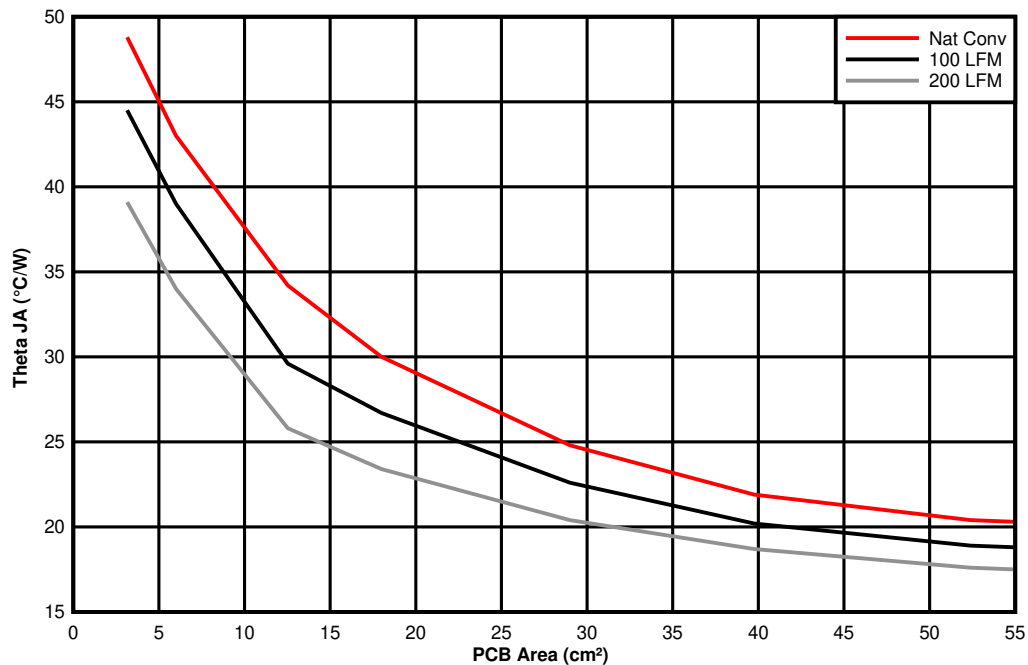

图 10-5. θ_{JA} vs PCB Area
The amount of PCB copper as well as airflow effects the thermal performance of the device. 图 10-5 shows the effects of copper area and airflow on the junction-to-ambient thermal resistance ($R_{\theta JA}$) of the TPSM560R6. The junction-to-ambient thermal resistance versus PCB area is plotted for a 4-layer PCB.
3. Reference 图 10-5 to determine the minimum required PCB area for the application conditions.